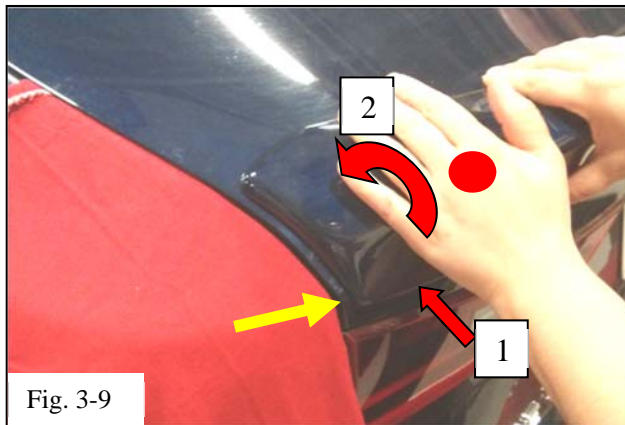

Fig. 3-9
- (j) Visually align the end of the spoiler such that when the spoiler will be pressed downward it matches the curvature of the trunk lid. The yellow arrow indicates the area best suited for alignment (Fig 3-9). When aligned, beginning at the rear edge (Fig 3-9 Arrow 1) press forward to wet-out the tape and continue rolling the hand forward (Fig 3-9 Arrow 2) to wet-out the outboard tip of the spoiler. As the hand passes the point indicated by the red dot (Fig 3-9) press downward to ensure that the clip engages.